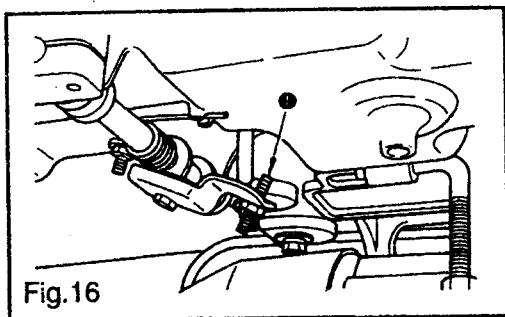

Fig.16
- 1) Drill four guiding holes ①, ②, ③ and ④ for wooden screws in the table.
- 2) Install belt cover support ⑤ in the tapped hole in the arm.
- 3) Pass the handwheel through the hole in belt cover A ⑥, then set the handwheel on the arm. At this time, you can smoothly install the handwheel diagonally from the rear of the handwheel by tilting belt cover A ⑥ as illustrated in the figure.
- 4) Place belt cover B ⑦ on guiding holes ③ and ④.
- 5) Fix belt cover A ⑥ on the arm using screws ⑧, ⑨ and washer ⑩. At this time, tighten screw ⑧ with a tightening torque of 30 kgf/cm and screw ⑨ with a tightening torque of 25 kgf/cm. If you tighten further these screws, the securing state of the belt cover will not change.
- 6) Fit cat ⑪ to the belt cover A.
- 7) Move belt cover B ⑦ backward until the rubber section of belt cover B ⑦ comes in contact with belt cover A ⑥. Then, further move the belt cover B in the same direction by 0.5 to 1mm. Now, fix the belt cover B in position using wooden screw and washer.
- 8) Fix bobbin winder ⑫ in guiding holes ① and ② using wooden screws and washers.
13. ADJUSTING THE HEIGHT OF THE KNEE LIFTER (Fig.16,17)